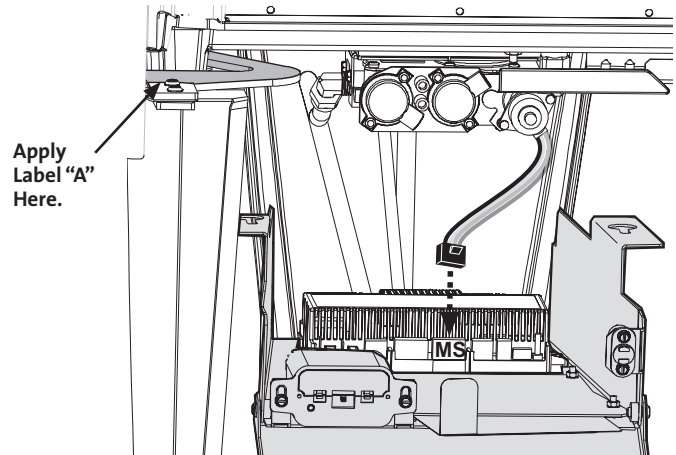

Figure 10. Connect regulator lead to IFC terminal "M".
- Remove the regulator components from the valve and disconnect the motor leads from the IFC box as shown in fig. 10.
- Connect the motor leads to **Terminal M on the IFC.** Fig. 10.
- **Label A:** apply to the **Lower Door Hinge**. Fig. 10.